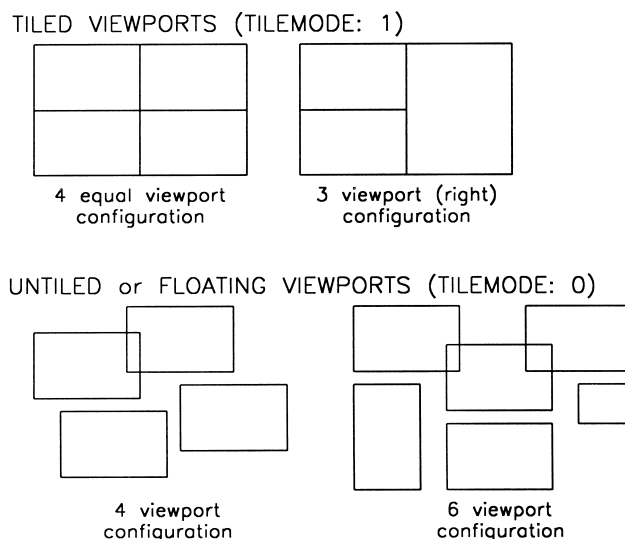

Figure 9.1 Tiled and untiled viewports.
- 5 There are two types of viewport (displayed in Fig. 9.1) these being: